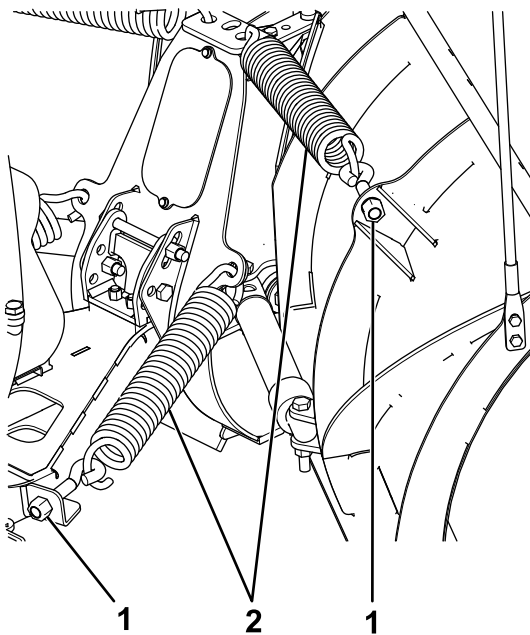

Figure 31
2. Loosen and carefully remove the fasteners from the trip-spring eye bolts (Figure 31).
8. Secure the trip-spring eye bolts with the previously removed fasteners (Figure 31).